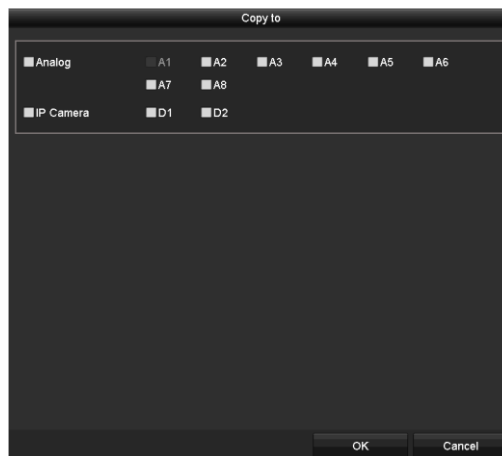

Figure 12-17 Copy Settings to Other Camera(s)
Step 5 Enter the storage capacity in the text field of **Max. Record Capacity (GB)**.
Step 6 You can copy the quota settings of the current camera to other cameras if required. Click the **Copy** button to enter the **Copy Camera** interface, as shown in Figure 12-17.